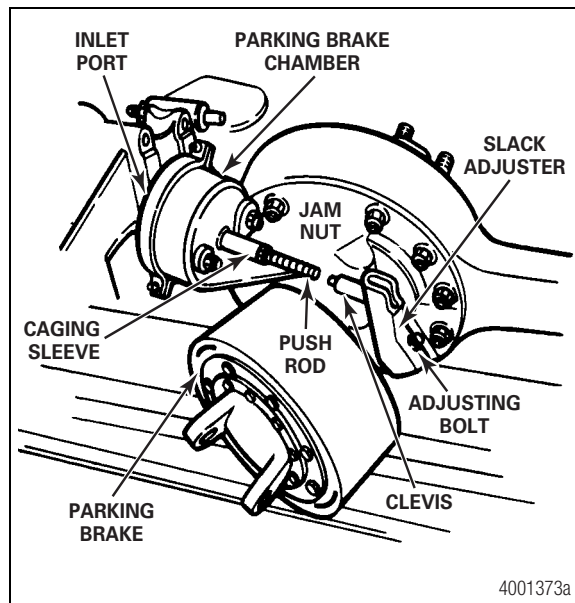

Figure 2.6
- The brake shoes are 4.5-inches (114 mm) wide. Figure 2.6.